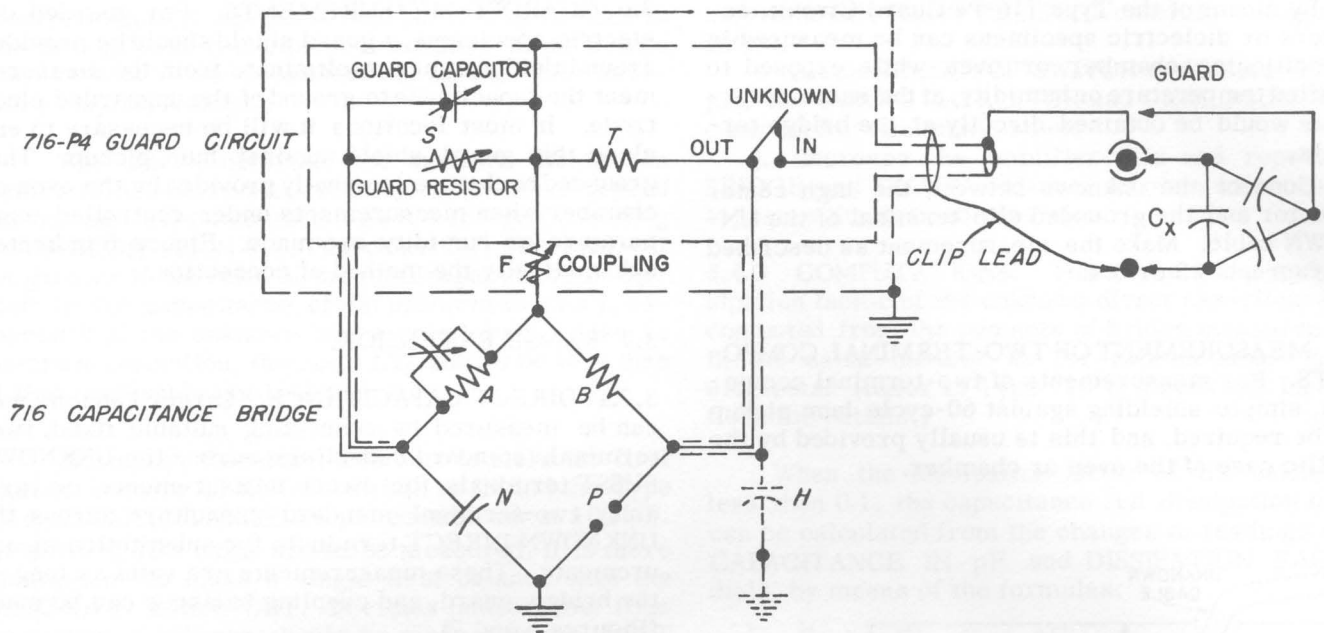

Figure 6. Elementary Schematic Diagram of 716-P4 Connected to 716-C, Direct Method.
**3.7.1 DIRECT CAPACITANCE.** Larger capacitances can be measured by connecting suitable fixed, two-terminal, standard capacitors across the UNKNOWN SUBST terminals for direct measurements, or variable, two-terminal standard capacitors across the UNKNOWN DIRECT terminals for substitution measurements. These measurements are valid as long as the bridge, guard, and coupling balances can be made (Figures 6 and 7).